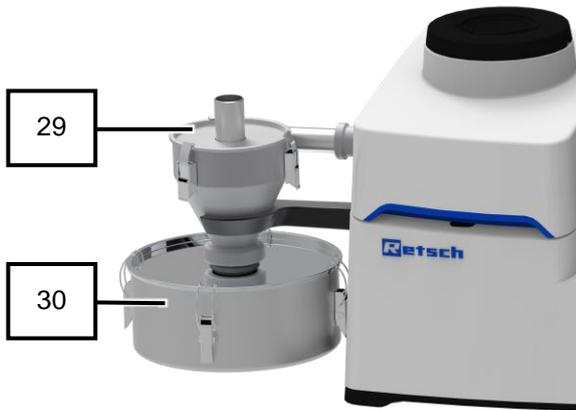

Fig. 49: The cyclone separator is installed
- ➔ The cyclone separator (29) with collection receptacle (30) is installed (Fig. 49).